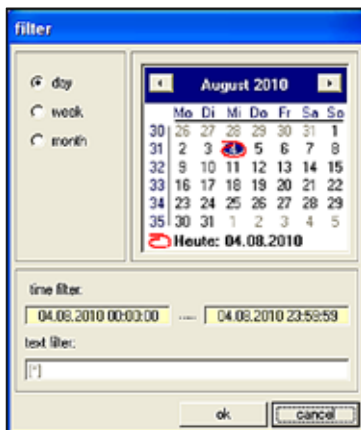

Fig. 50
- 1 Filter** Clicking on this button opens the **Filter** dialog box (→ Fig. 50). Here you can define a time filter limiting the event table display to one day, one week or one month.